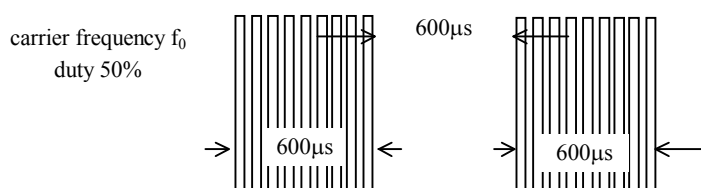

Fig 1. Burst Wave
- (1) Measuring place ..... Indoor without extreme reflection of light.
- (2) Ambient light source... Detecting surface illumination shall be 200±50Lux under ordinary white fluorescence lamp of no high frequency lighting.
- (3) Standard transmitter ... Burst wave indicated in Fig 1. of standard transmitter shall be arranged to 50mVp-p under the measuring circuit specified in Fig 2.